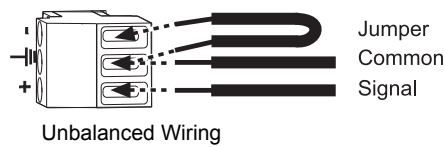

**FIG. 89** Fasten cable onto input or output connector
2. Attach input and output cables to the TX or RX connectors on the modules or AF-10 boards (FIG. 89).